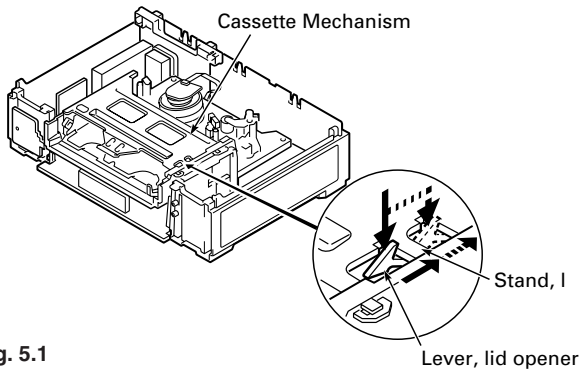
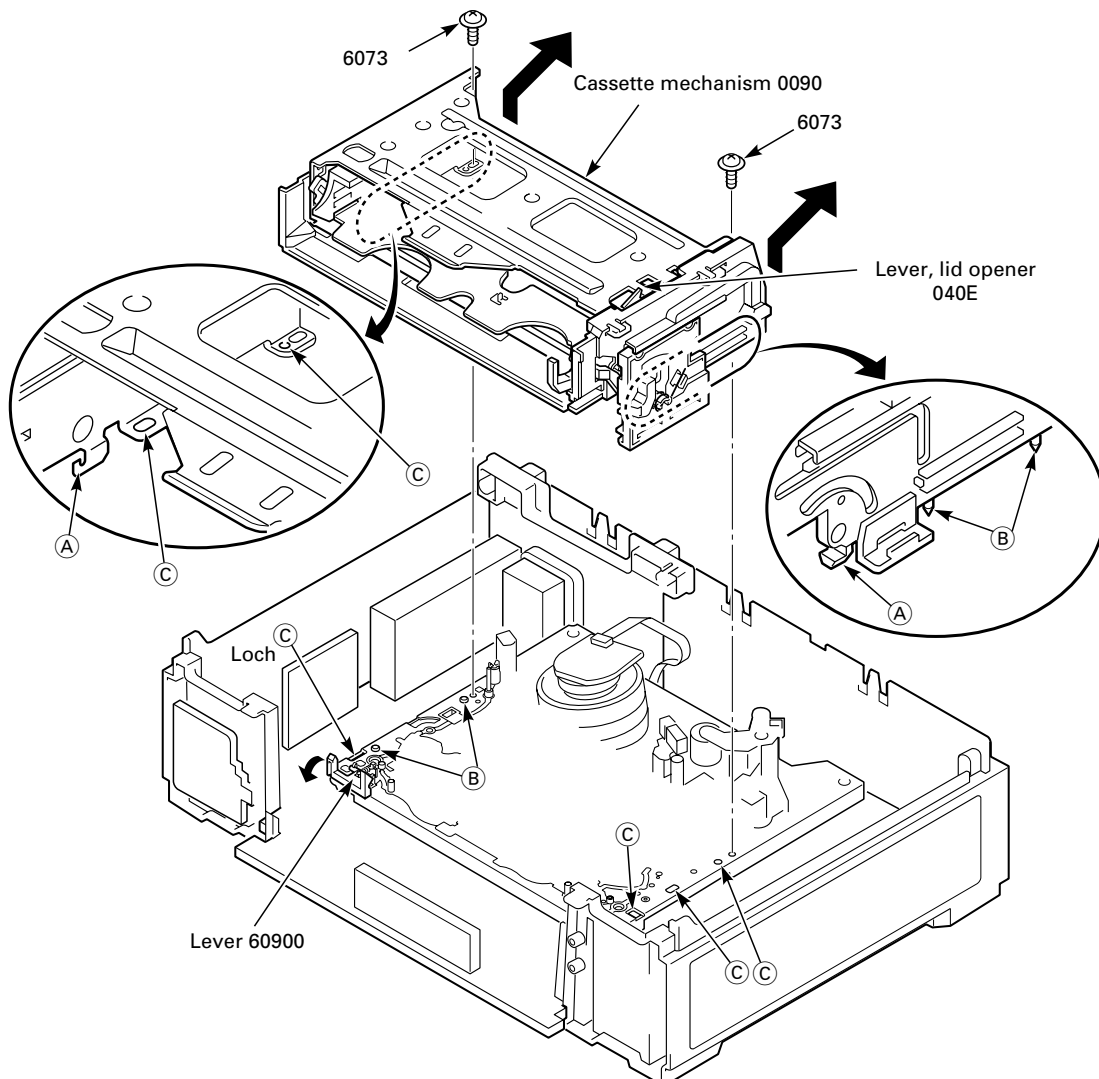

Fig. 5.1
Fig. 8.3
**Note:** When checking the mechanism mode positions without a cassette being loaded take care that the opening lever for the cassette lid (040E) is unlocked (Fig. 5.1)
**Note:** When checking the mechanism mode positions without a cassette being loaded take care that the opening lever for the cassette lid (Pos. 040E) is unlocked (Fig. 5.1).
- Undo 2 screws (6073, Fig. 8.3).
**Note:** When reassembling the cassette mechanism (0090) the lever (60900) must be pressed towards the front. The cassette mechanism (0090) is positioned correctly when the two hooks **A** and the dowels **B** engage with the holes **C** (Fig. 8.3).
- Press the lid opening lever (040E, Fig. 8.3) to release the lock and lower the tray (040A, Fig. 5.1).